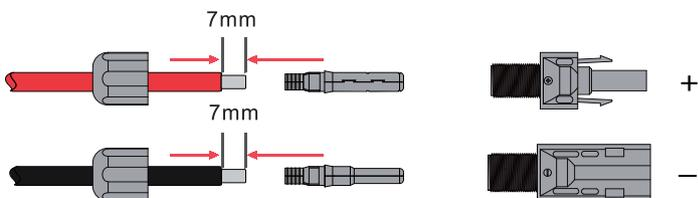

Figure 4.1-1 Pv cables and pv plugs
**Setp 1.** Strip the insulation of the PV wire by 7mm,disassemble the cap nut of the connetctor, thread one PV wire through the cap nut of the connector. Repeat this operation with all the PV wires, paying special attention to the polarity of the connector,as shown in Figure 4.1-1.